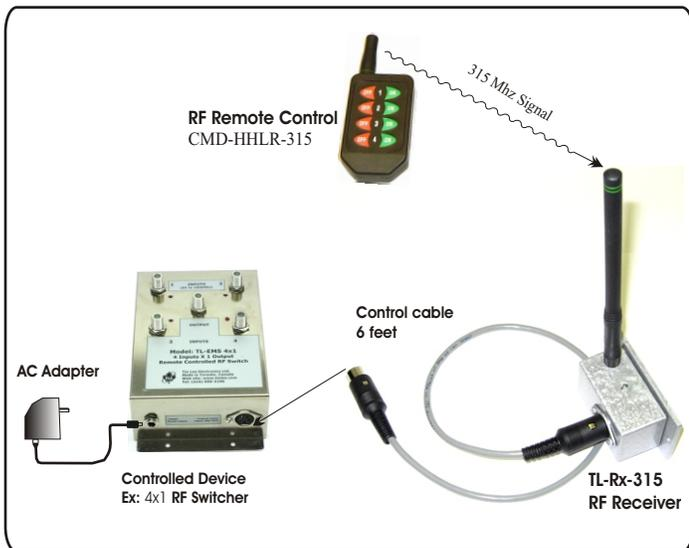

Figure 1 RF Remote Control for RF Signal Switcher
Model TL-Rx-315 radio frequency (RF) receiver operates at 315 MH, together with a compatible handheld RF transmitter, e.g., CMD-HHLR-315, they allow wireless remote control for a variety of TLE RF Switch devices. The TL-Rx-315 receives RF signals sent by the RF transmitter, then translates it into a Rs232 compliant output to be carried by control cable to the RF Switch. Figures 1 and 2 shows example of Remote controlled RF Switch.